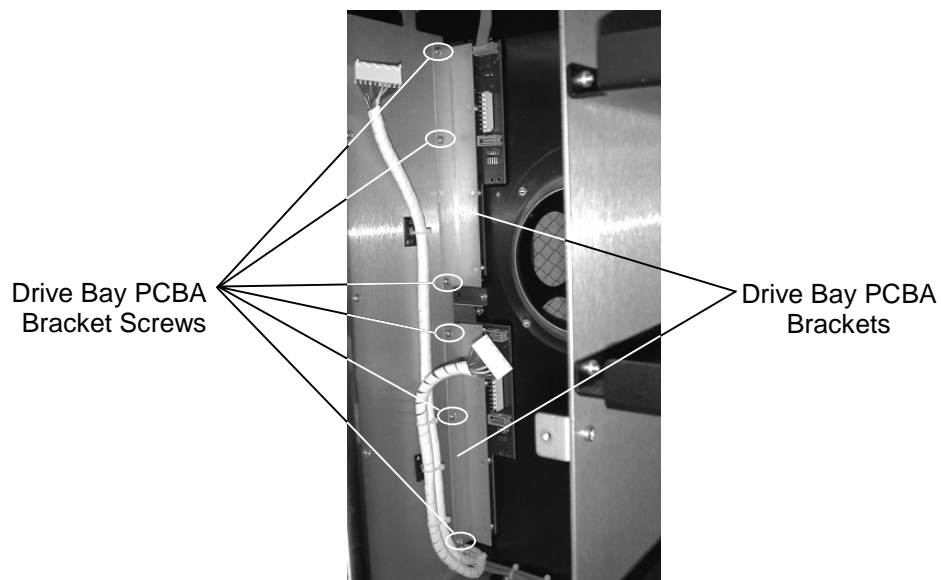

Figure 7-66 58xxx, 68xxx and 88xxx Models Left Side Drive Bay PCBA Brackets and Screws
6. Use a number 2 Phillips screwdriver to remove the three Drive Bay PCBA Bracket screws for the PCBA being removed. See Figure 7-66. Save the screws for later use.
9. Use a number 2 Phillips screwdriver to tighten the three Drive Bay PCBA Bracket screws (Figure 7-66).